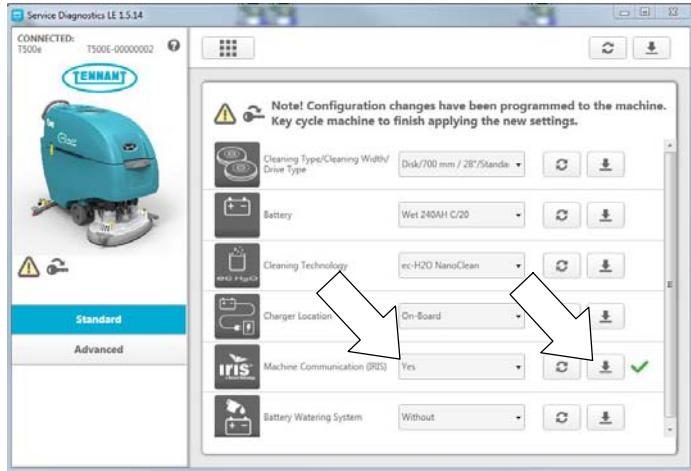

Fig. 25
- From the machine configuration page, select "Yes" from the **IRIS** drop-down menu to configure the machine with telemetry technology (Figure 25). Then press the down arrow button to program the machine. A green check will appear next to the down arrow button when programmed.